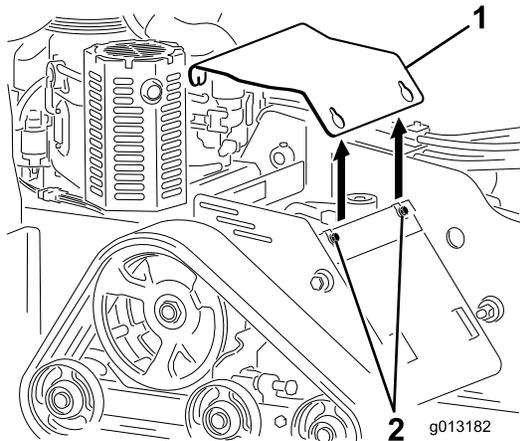

Figure 26
3. Loosen the 3 bolts securing the cover plate to the frame sequentially until the cover is free (Figure 26).
2. Slide the cover plate into place and secure it with the 3 bolts you loosened previously (Figure 26).